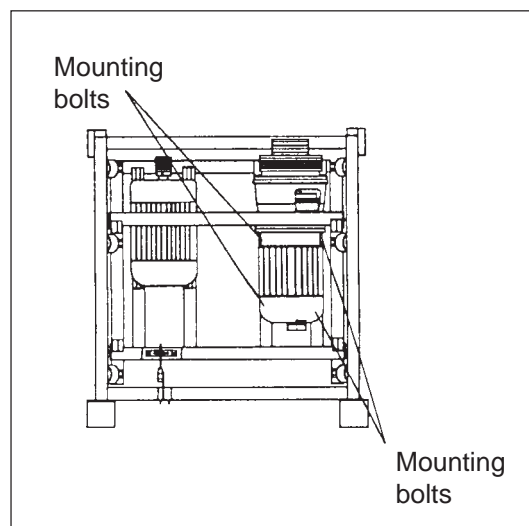

Figure 10. Attachment of extraction
10. Unscrew the motor bolts from the motor mount (Figure 10).